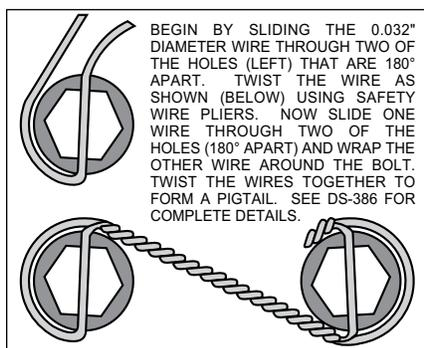

Figure 3. Safety Wire Diagram
- With the larger I.D. side of the rotor (7) facing away from the hat (8), bolt rotor (7) to hat (8) through the backside of the rotor using bolts (9), and washers (10). Apply red *Loctite*® 271 to the bolt threads and torque to 155 **in-lb** using a criss-cross pattern. For an added measure of security, the bolts may be safety wired using standard 0.032 inch diameter stainless steel safety wire as shown in Figure 3. Please refer to Wilwood’s data sheet DS-386 (available at www.wilwood.com/Pdf/DataSheets/ds386.pdf) for complete safety wire installation instructions.